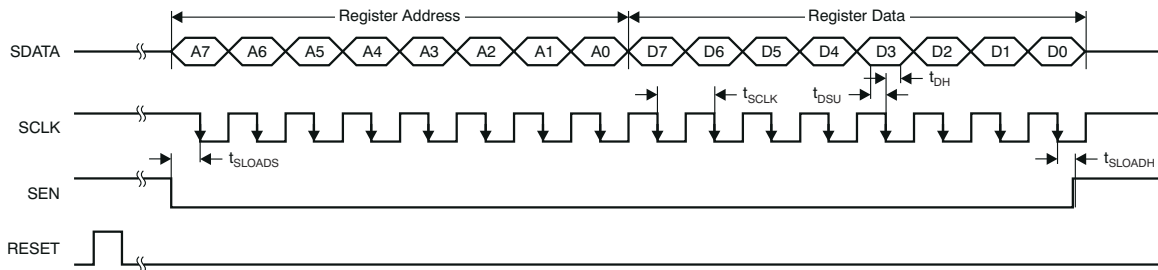

图 7-9. Serial Interface Timing
1. Either through hardware reset by applying a high pulse on the RESET terminal (of width greater than 10ns), as shown in Figure 7-9; or